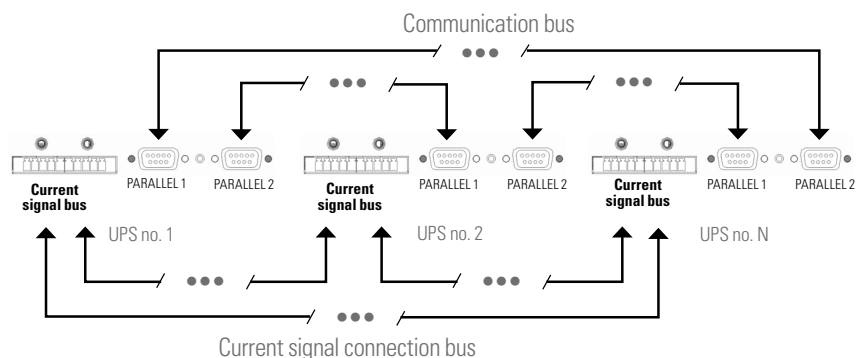

Fig. 65. Current signal and communication bus connection.
- **Current signal bus.** Use the cable with connectors at the ends to connect the current signal between consecutive devices, as shown in Fig. 65. Lastly, close the bus loop between the last and first devices.